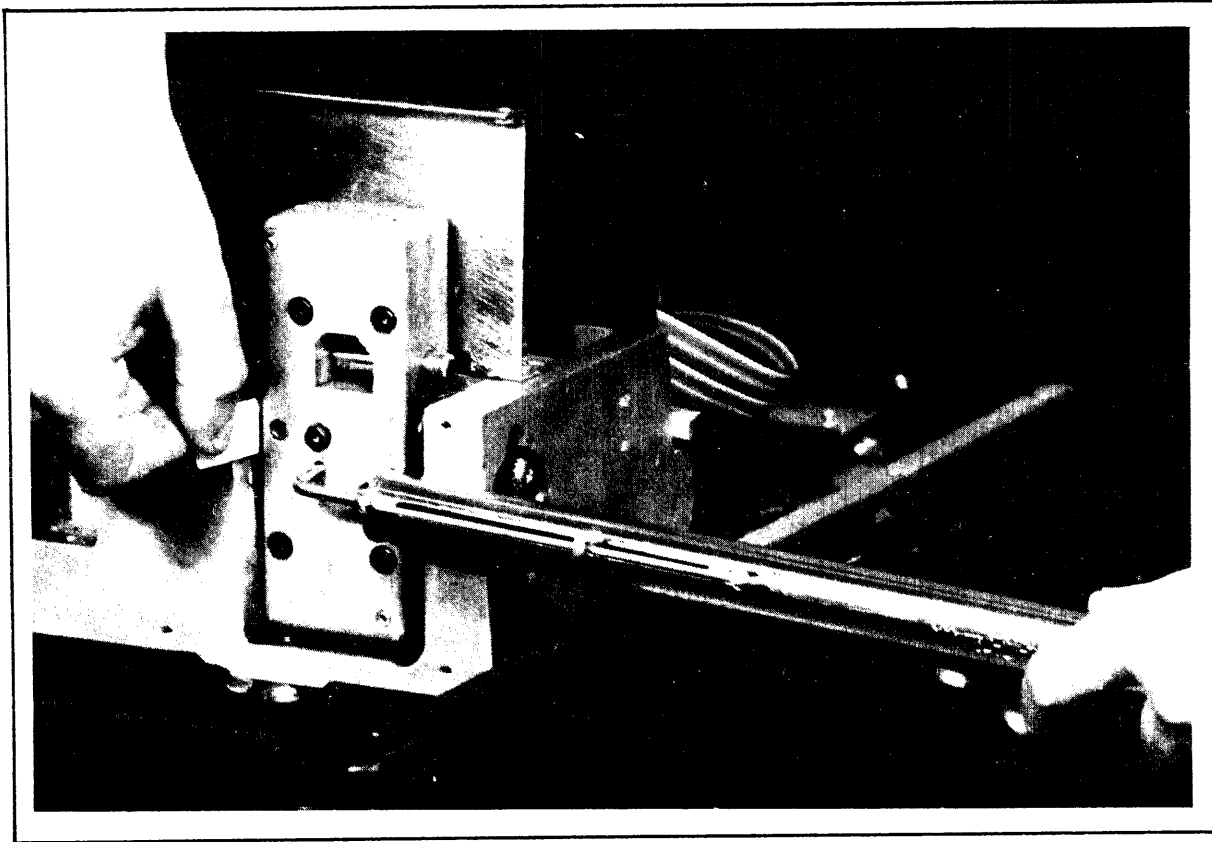

Figure 58 Checking Counterbalance Spring Force
- f. Hook force gauge to hole in face of counterbalance (figure 58) and pull gauge to the right *keeping it parallel to face of counterbalance*. Cam follower should just separate from the cam with a force of 14 pounds  $\pm$  2 pounds. To detect separation, hold a 0.003-inch feeler gauge between cam and follower, exerting a slight pull on the feeler gauge as counterbalance is pulled to the right. Separation is indicated when the feeler gauge is released.